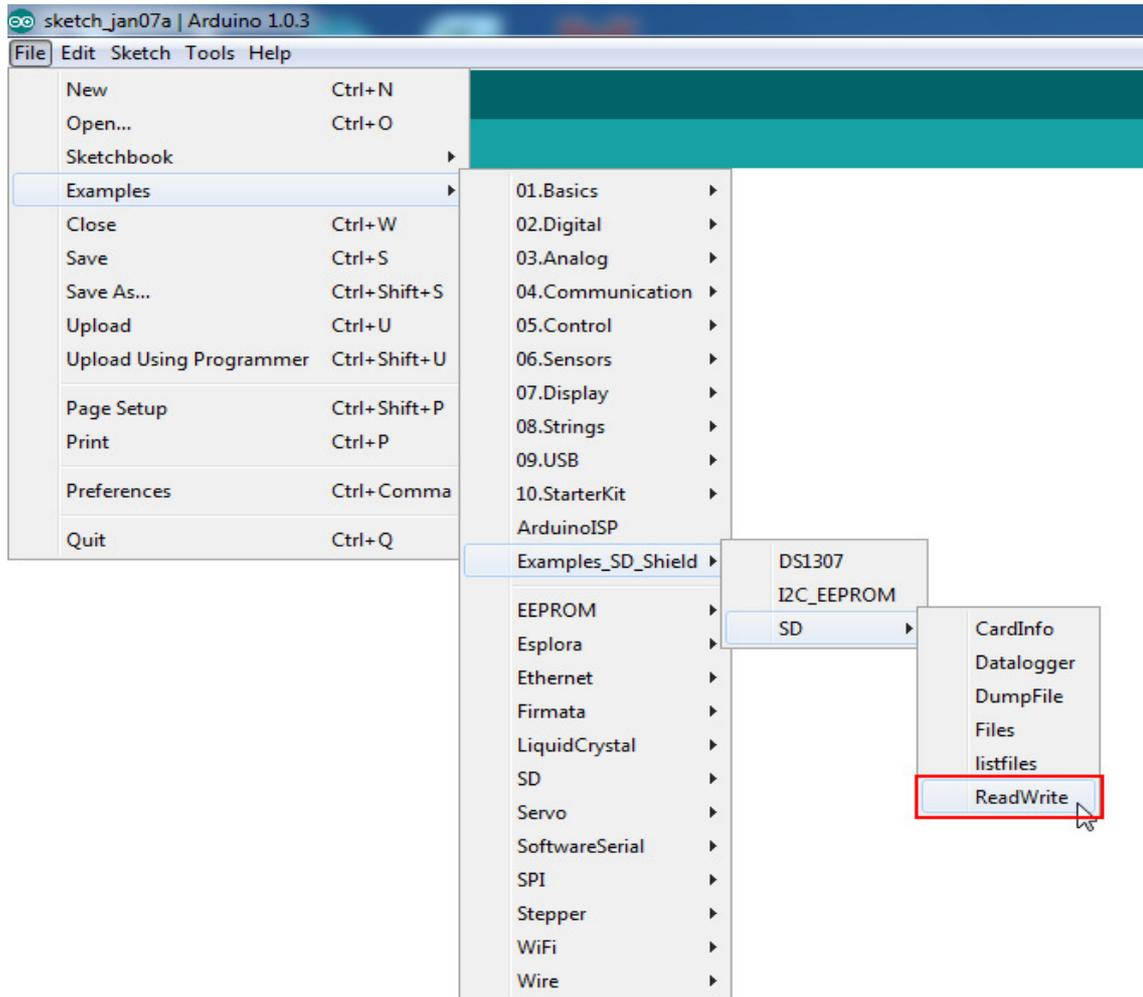

Figure 12.
6. Open an example program is “ReadWrite program” to will be tested this SD Card Shield Plus is choose “File>Examples>Examples\_SD\_Shield >SD>ReadWrite” as figure 12.